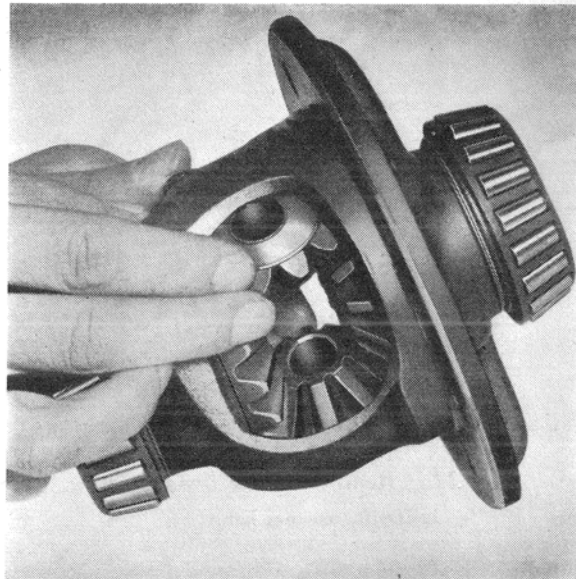

Fig. 15. Fitting the differential pinion gears.
1. If the differential has been disassembled, the differential side gears (38) and the thrust washers (39) are fitted in the differential housing (43). Then "roll" in the differential pinion gears (41) (both simultaneously) with the recessed thrust washers (42), see fig. 15.
2. Insert the spacer block (32) and drive in the shaft (31).
3. Fit the differential carrier in a vice and fit one axle shaft in the differential side gear on one side. The differential should then run so stiffly that it can only be turned with difficulty by hand with this shaft. If it runs too easily, new thrust washers (39) are fitted. The plain washers are available in oversizes and thicknesses as shown in the specifications. Note that equally thick washers should be fitted under correspon-